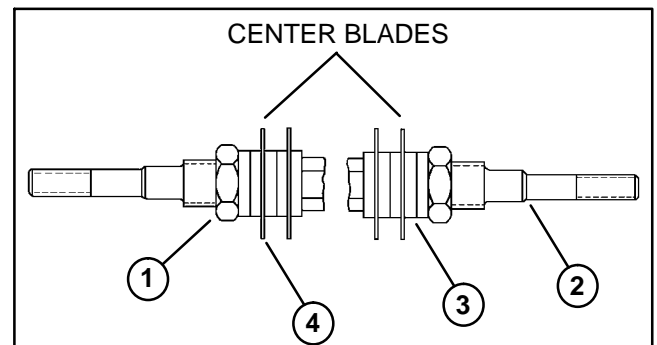

Figure 12
4. Position lock nuts to allow blades and spacers to be centered on the shaft (Fig. 12). Torque lock nuts from **200 to 250 in-lbs. (22.6 to 28.3 N-m)** so spacers are **not** free to rotate.